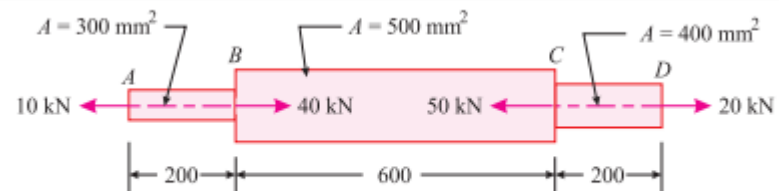

Fig. 3.14
5. A member $ABCD$ is subjected to point load as shown in Fig. 3.14.